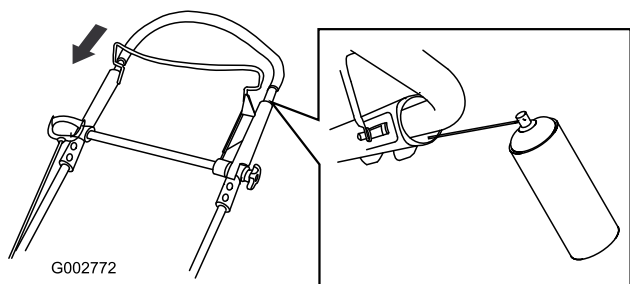

Figure 35
2. Push the upper handle fully down and spray the inner plastic surface of the outer handle (Figure 35).